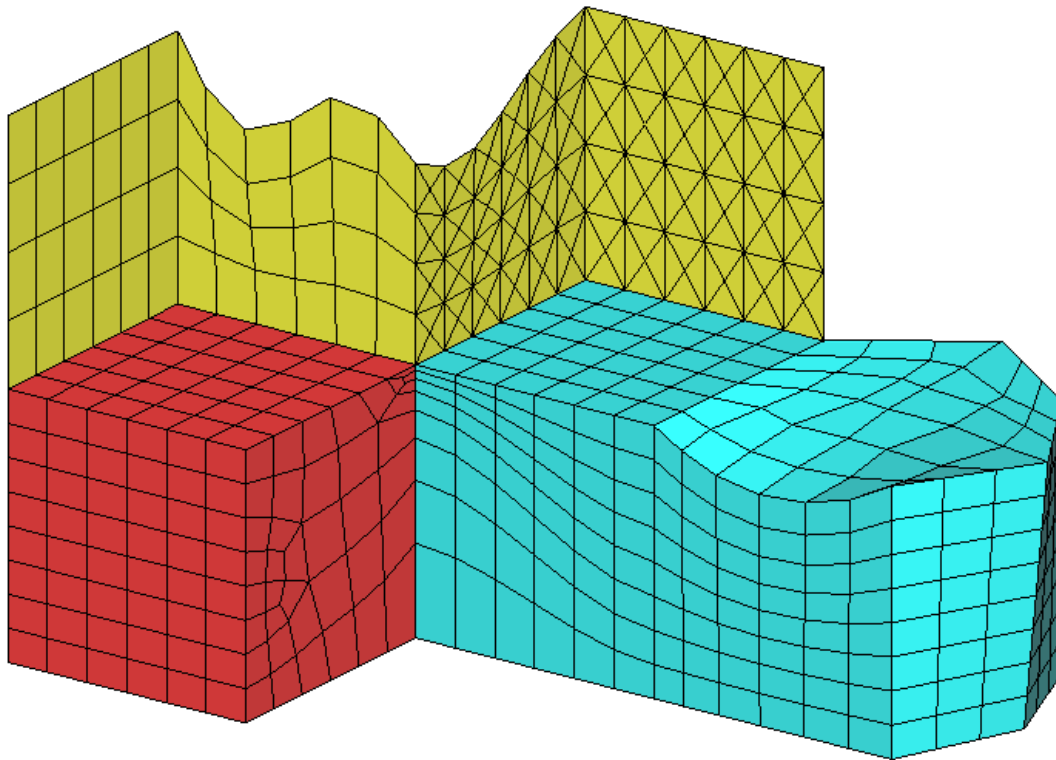

Figure 13. Concentration of elements on line 43.
- 6 . Another window appears in which to enter the maximum element size. Leave the default value unaltered. The result is the mesh shown in Figure 13.